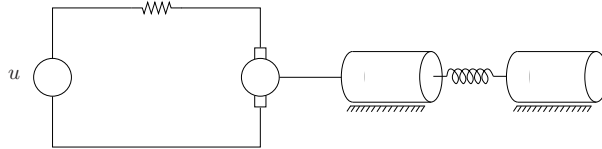

Figure 3: Electric motor with load
4. You have been assigned to compute a model of an electric motor with a mechanical load, see Figure 3. An approximate physical model for such a motor is given by